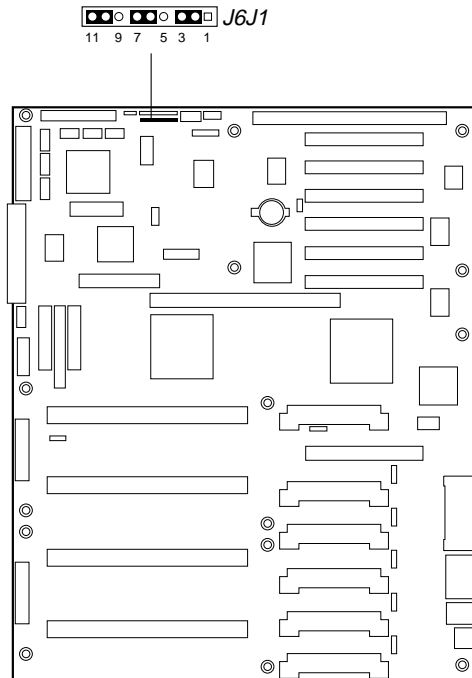

Figure 29: System Board Jumpers
One 11-pin connector provides three 3-pin jumper blocks that control the functions identified above. Figure 29 shows the location and orientation of the jumpers. Items in **bold** in Table 6 on page 73 show the default placement for each configurable option.
5. Locate the configuration jumpers at the edge of the system board toward the front of the system (see Figure 29 on page 72).